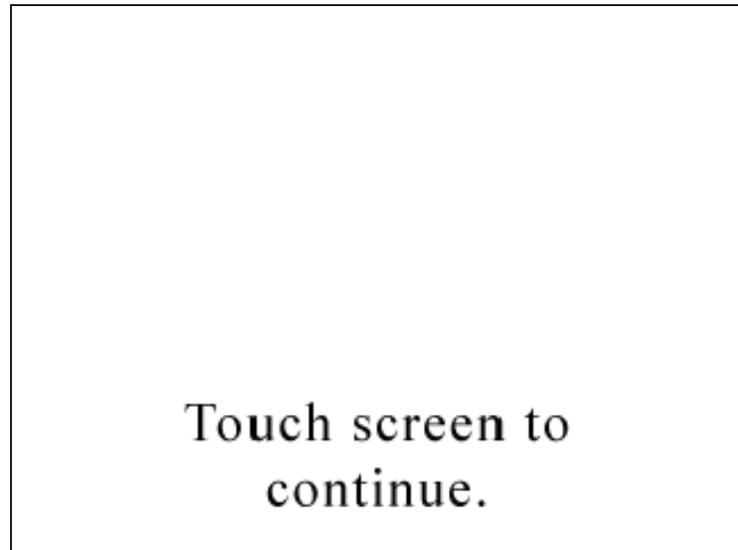

Figure 6-46 Alignment Saved Screen
- Once the final alignment is complete, the following screen is displayed. See Figure 6-46. Touch anywhere in the screen to return to the OPTIONs screen.